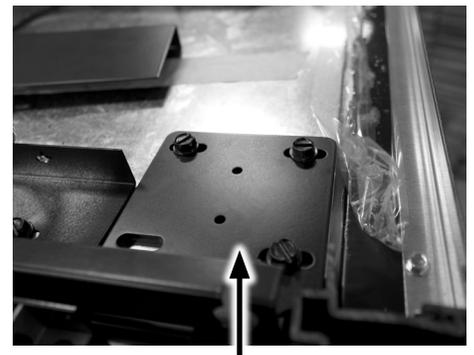

FIGURE 3: Top Mounting Plate
1. To access the top mounting plate (**FIGURE 3**), remove the top trim piece. This will require a Phillips bit and a 1/4" hex screw bit.